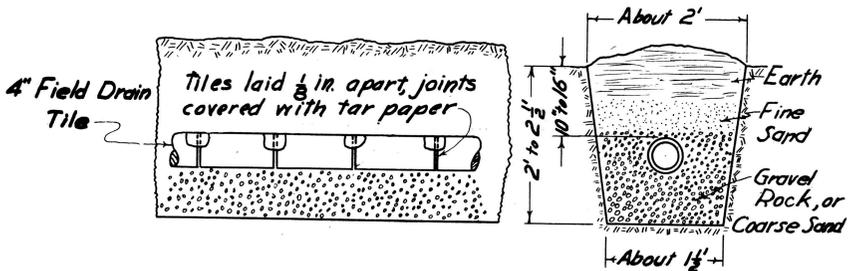

Fig. 8.—Where the soil is very tight, the disposal tile should be laid in a gravel-filled trench.
**Sink Trap and Drain.**—A trap must be installed under the sink to prevent foul gas and odors from coming back into the kitchen. From the sink trap a  $1\frac{1}{2}$ -inch pipe should run through the floor and connect into a 4-inch cast iron soil pipe which runs through the house wall. From the cast iron soil pipe a line of 4-inch vitrified sewer tile should be laid to a point 40 or 50 feet from the house, and at least 100 feet from any well supplying water for the house. The tile should be laid with a fall of from  $\frac{1}{8}$  to  $\frac{1}{4}$  inch per foot, and all joints should be cemented to make them water tight. From the end of the vitrified sewer tile, a line of common 4-inch drain tile should be laid with loose or open joints, and with a fall of about  $\frac{1}{4}$  inch per foot. The necessary length of this tile line will depend upon the porosity of the soil, 50 to 75 feet usually being sufficient for average conditions. Where the soil is heavy and tight, it is advisable to lay the tile in a trench of gravel, the trench being about 2 feet deep, and the tile being laid not over 18 inches deep. See Fig. 8. In case there is a large amount of grease in the waste water, a grease trap as described later in this circular, should be installed in the sink drain.